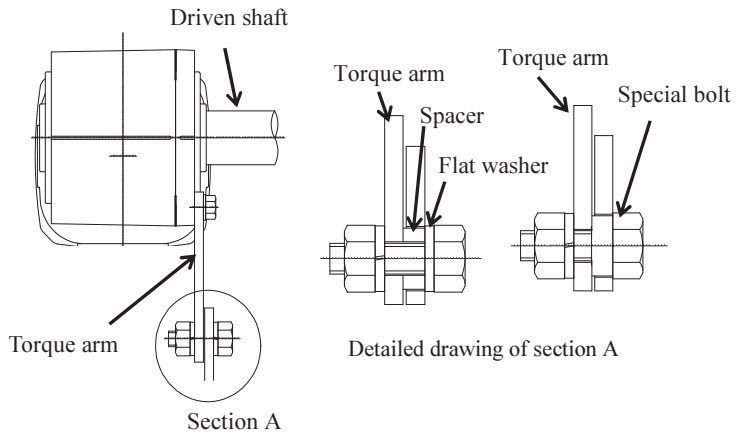
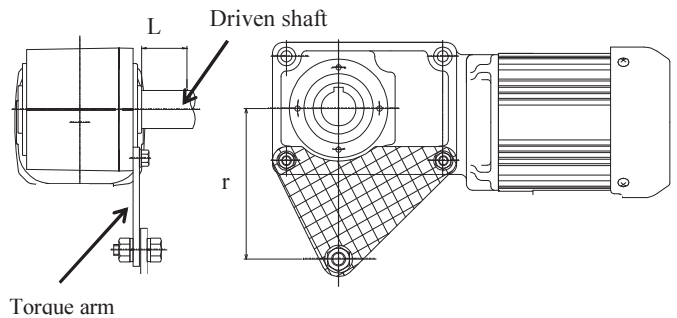

Fig.5
Fig.6
- ① In consideration of the shock at the time of the start or the brake, be sure to select a board thickness and bolts with enough strength. (refer to Fig. 5).
- ② Move the end face of the hollow shaft close to section A (torque arm whirl-stop) as far as possible.
- ③ Check that forces unnecessary for stopping the whirl cannot be applied to the torque arm whirl-stop.
- ④ Please design as long as possible the dimensionsr. (refer to Fig. 6).